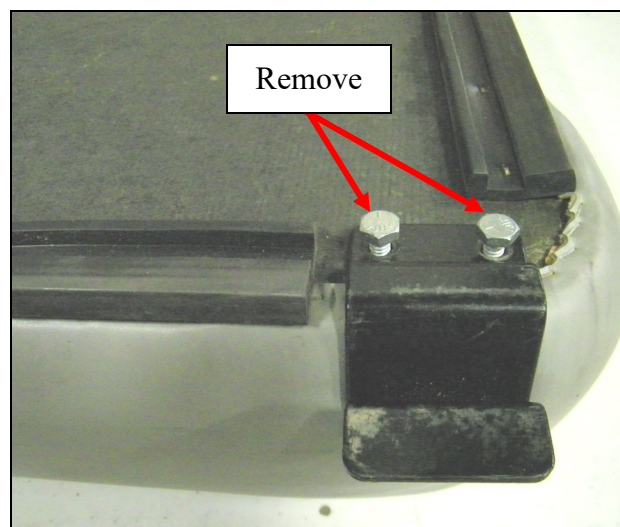
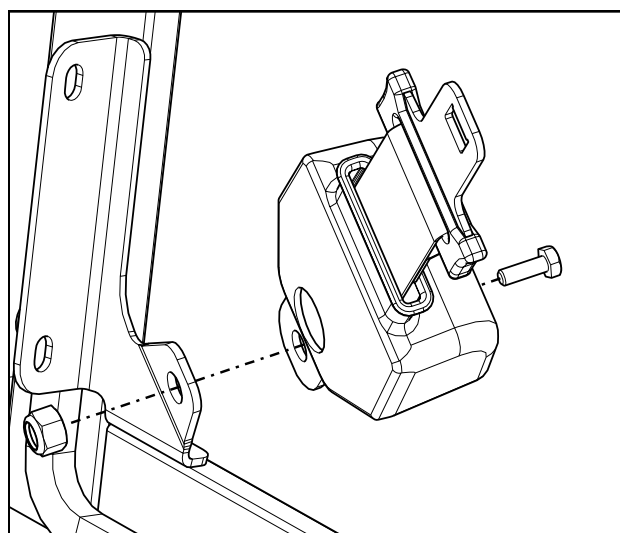

Fig. 13.1: Seat Base
Fig. 13.3: Seat belt
13.3 Mount Seat belt to the driver side mounting bracket on side frame using (1) 7/16-14 x 1" hex head bolt and 7/16-14 lock nut as shown in figure 13.1. Tighten mounting hardware to 50 ft.-lbs. (67.8 N-m). (**Figure 13.3**)